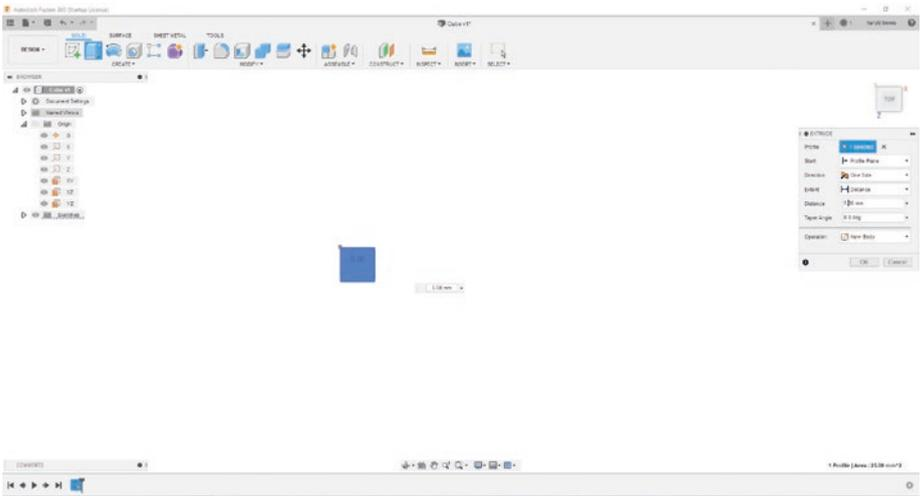

Figure 3-50. Extrude out 5mm
2. The “Extrude” function has a lot of options, but for now let’s just move to the distance text box and enter “5” and press enter. See Figure 3-50.